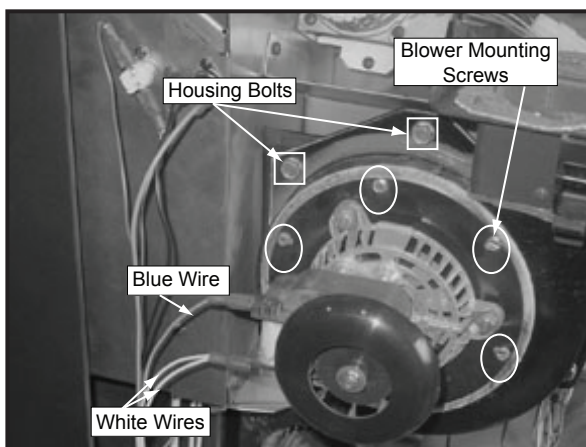

Figure 17.2
- e. Remove blower mounting screws (not housing bolts), **Figure 17.2**, from blower housing and remove blower. The replacement blower is shipped with a housing. If you do not need the housing, discard it. If you do need to replace the housing you will also need to replace the gasket. See Service Parts starting on **page 24** for the part number.